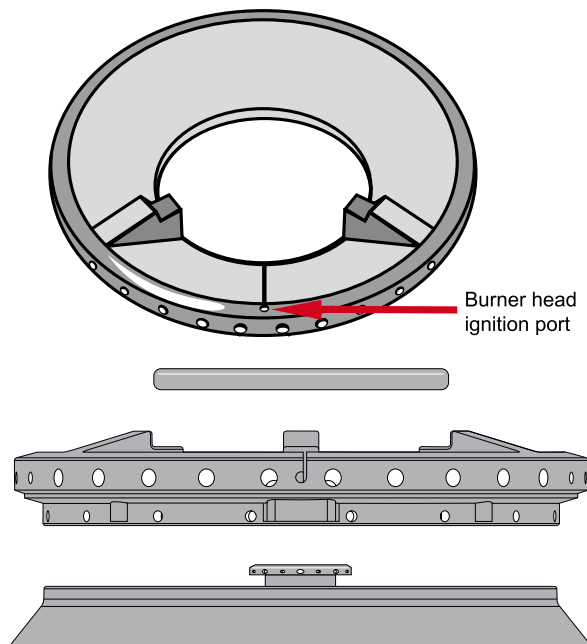

Figure 2- Cooktop G5 burner head
1. Pull the plastic slider to the front of the glide slots on each side of the drawer cavity (See Figure 2).